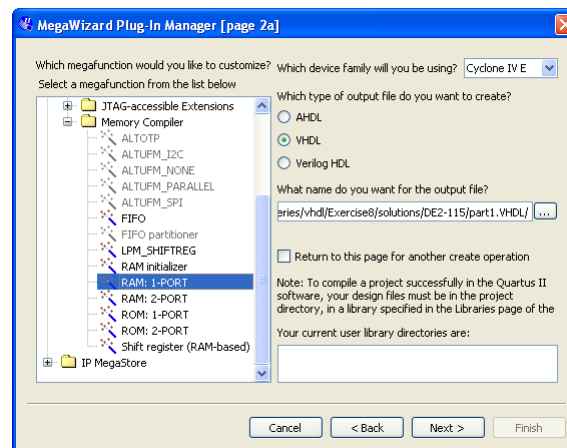
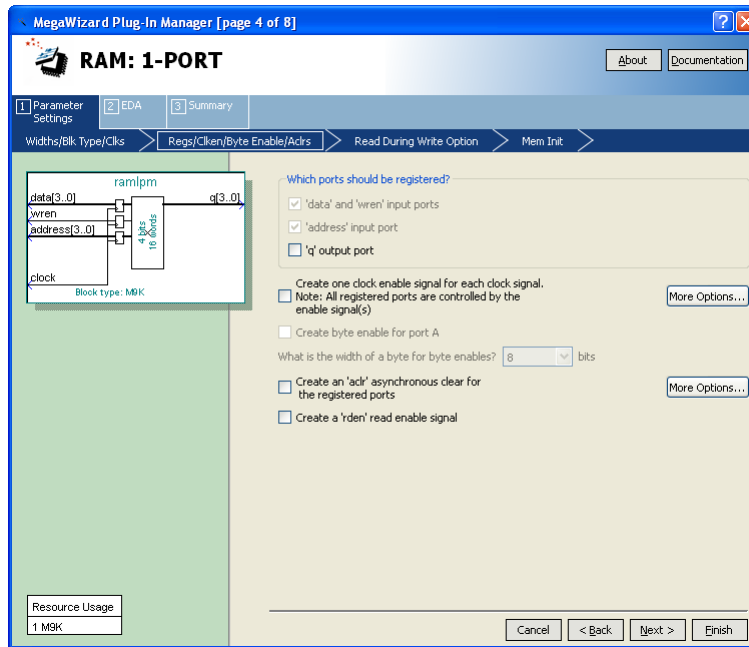

Figure 2: Choosing the *RAM: 1-PORT* LPM.
Figure 3: Configuring input and output ports on the *RAM: 1-PORT* LPM.
2. You can learn how the MegaWizard Plug-in Manager is used to generate a desired LPM module by reading the tutorial *Using Library Modules in VHDL Designs*. This tutorial is provided in the University Program section of Altera's web site. In the first screen of the MegaWizard Plug-in Manager choose the *RAM: 1-PORT* LPM, which is found under the Memory Compiler category. As indicated in Figure 2, select VHDL as the type of output file to create, and give the file the name *ramlpm.vhd*. On the next page of the Wizard specify a memory size of 32 eight-bit words, and select M9K as the type of RAM block. Accept the default settings to use a single clock for the RAM's registers, and then advance to the page shown in Figure 3. On this page *deselect* the setting called 'q' output port under the category Which ports should be registered?. This setting creates a RAM module that matches the structure in Figure 1b, with registered input ports and unregistered output ports. Accept defaults for the rest of the settings in the Wizard, and then instantiate in your top-level VHDL file the entity generated in *ramlpm.vhd*. Include appropriate input and output signals in your VHDL code for the memory ports given in Figure 1b.